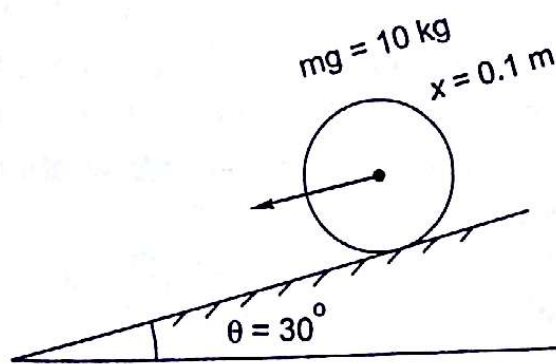

Fig. 19.18
- 19.3 A disc of radius 0.1 m, mass 10 kg rolls down an inclined plane with $\theta = 30^\circ$, without slipping and gains a velocity of 5 m/s. How much distance along the plane is covered? $g = 9.81 \text{ m/s}^2$ (Fig. 19.18)